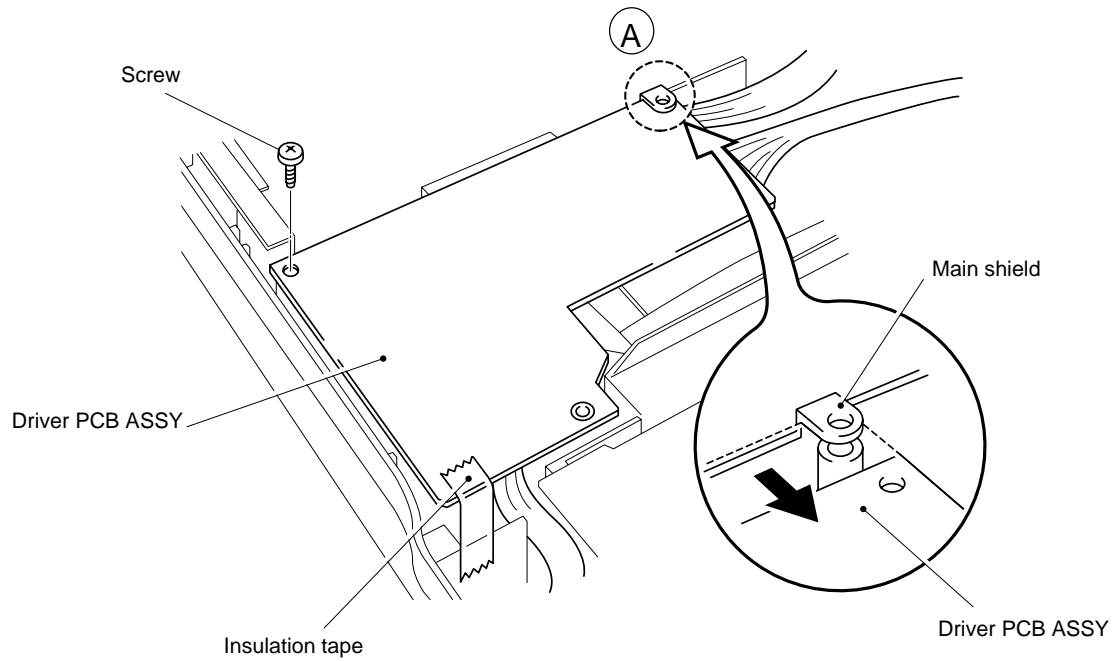

**Fig. 3.26**
*Note: See the Fig. 3.26 about the position installing the dumping material and the soundproof sponge A,B.*